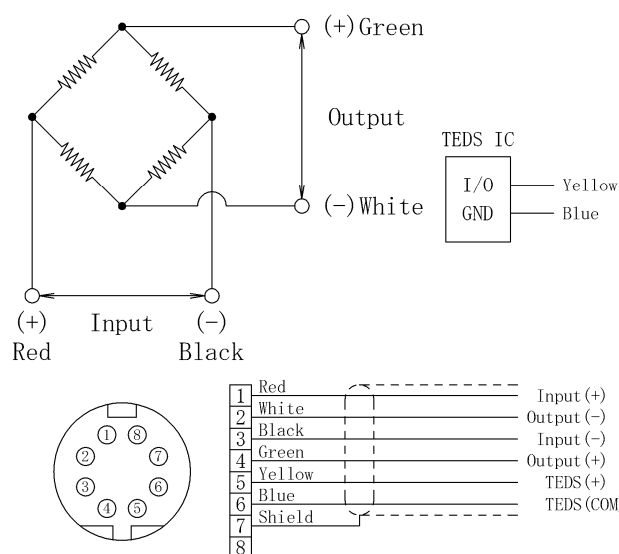

Fig. 7-1 Connection wiring diagram
7.1 Wiring of the transducer cable is described in the following Figures 7-1.